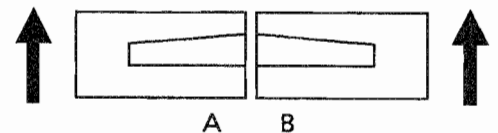

Figure 7
1. Open the cassette door to slide the lid up (Figure 7).